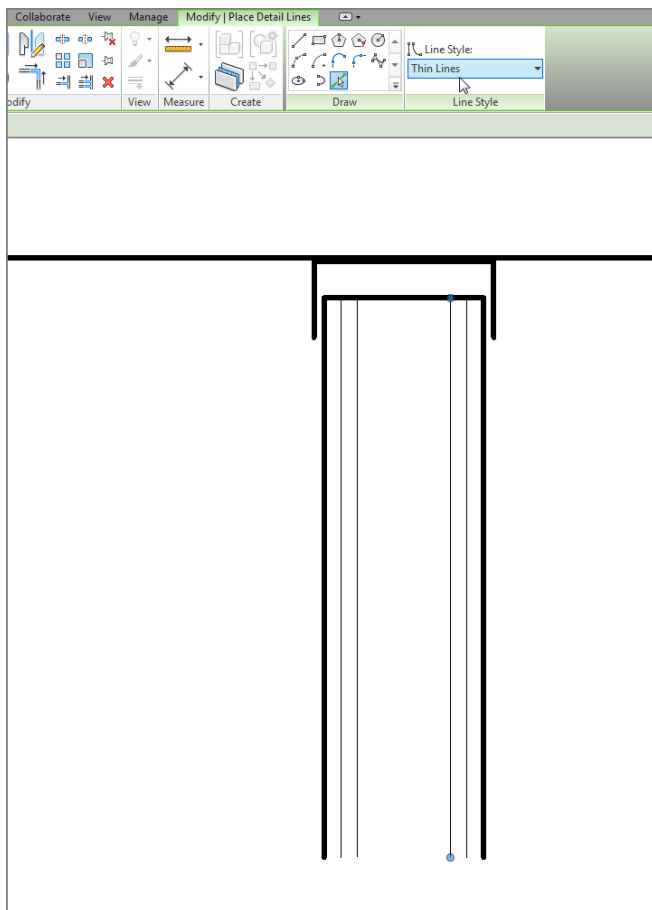

FIGURE 12.60: Adding the lines for the gypsum
3. On the Draw panel, click the Pick Lines icon, as shown in Figure 12.60.
5. Offset two lines in from the right and the left (see Figure 12.60).